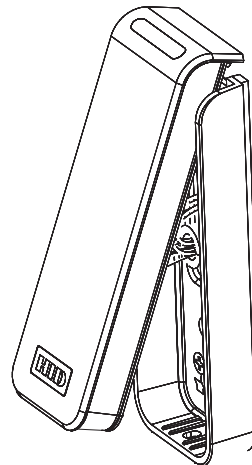

Fig. 4b
2. Hook the top of the reader on the top of the mounting plate (Fig. 4b).
4. Secure the reader to the mounting plate using the supplied 6-32 x 3/8" T10 security Torx machine screw (Fig. 4b).